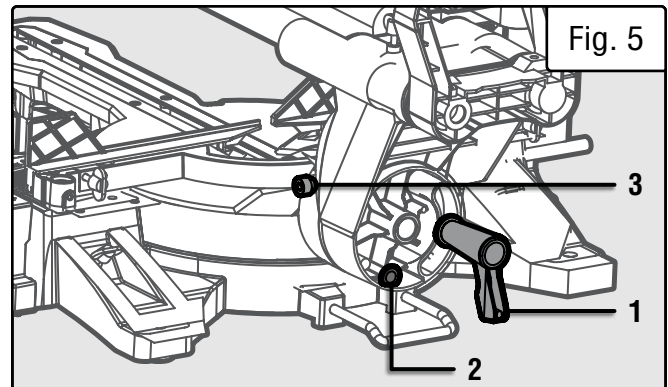
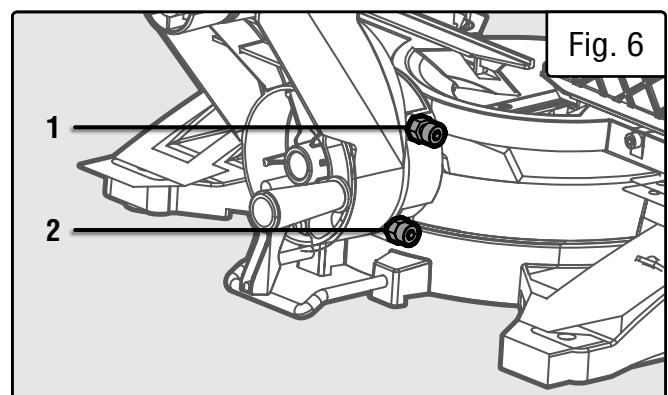

Fig. 5
Fig. 6
1. As viewed from the rear of the saw, loosen the bevel lock knob (Fig. 5 - 1) by turning it counterclockwise. This will allow the saw to bevel to the left.
2. To bevel the saw to the right, pull the right bevel stop pin out (Fig. 5 - 2). Push the pin back into place once you are finished with your right bevel cut.
2. The saw is equipped with three bevel adjustment bolts to provide positive stops at specific bevel angles. The top right bolt (Fig. 5 - 3) provides a positive bevel angle stop at 45-degrees to the right. The top left bolt (Fig. 6 - 1) provides a positive bevel angle stop at 45-degrees to the left. The bottom bolt (Fig. 6 - 2) provides a positive bevel angle stop at 0-degrees.